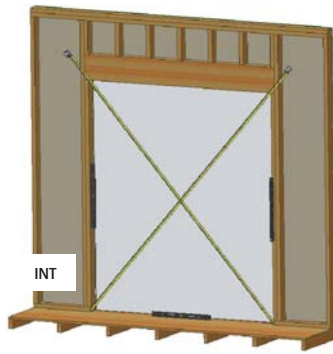

FIG. 1
- C) Verify the rough opening is flat, plumb, level and square. (Fig. 1)
- D) Take diagonal measurements to check for square. (Fig. 1)
- E) Make sure the bottom sill area of the rough opening is flat and level. Correct rough opening if sloped towards the interior, out of level or humped. (Fig. 1)